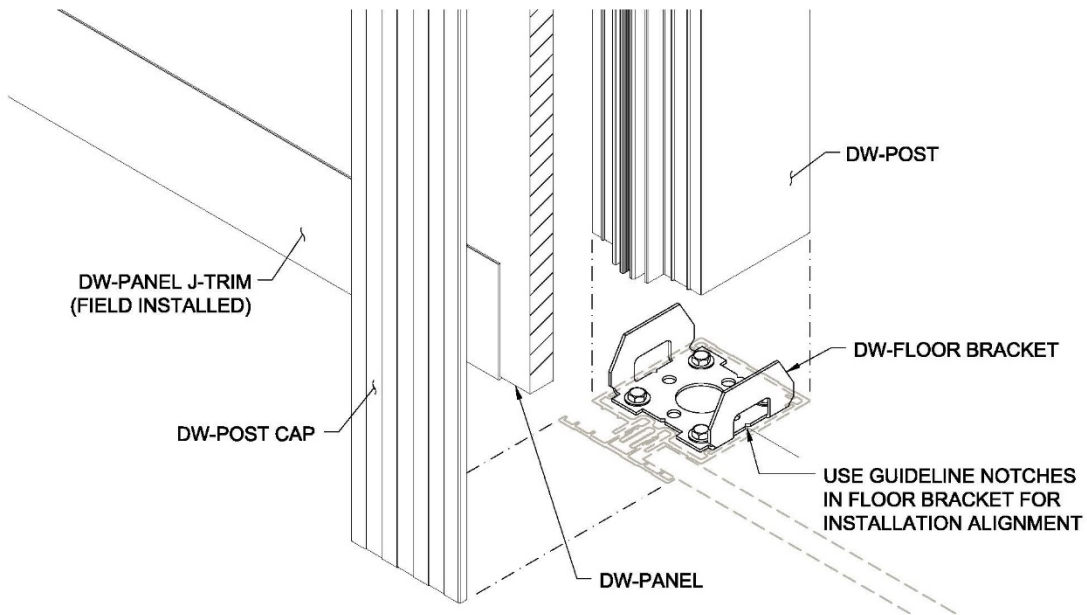

FIG.2
3. Locate floor bracket per layout aligned with center of top rail. The floor brackets have locating notches to aid in centering post on established locations. Note orientation of mating parts **FIG.2**.